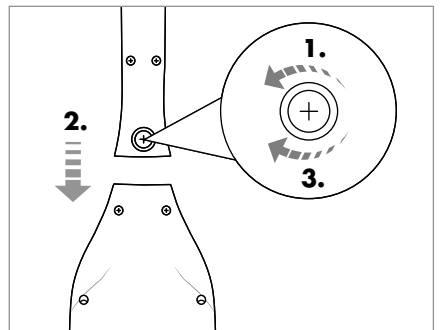

Fig. 2
- 1) Loosen the screw **13** at the back of the handle rod **12** with a Phillips screwdriver by turning it anticlockwise. Pull the screw **15** out of the screw opening on the handle rod **12** (Fig. 2).
- 2) Attach the handle rod 12 to the handle rod mount of the appliance. Push the handle rod 12 all the way onto the handle rod mount until it is firmly seated on the appliance (Fig. 2).
- 3) Insert the screw 13 into the screw hole at the back of the handle rod 12. Tighten the screw 13 with a Phillips screwdriver by turning it clockwise (Fig. 2).